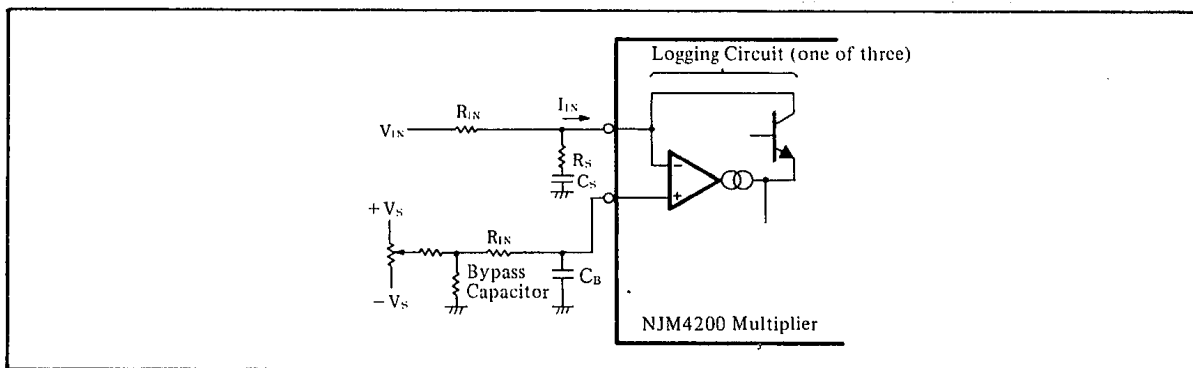

Figure 7. Optional Frequency Stability Components R_S, C_S and C_B
1. Connect a series $R_S C_S$ from input summing junction to ground as shown in Figure 7. This network has the effect of attenuating the feedback at high frequencies and thereby stabilizing the op amp. Loop gain at high frequencies is sacrificed, but this is seldom of concern in dividing or square-rooting applications. Recommended values are $10\text{k}\Omega$ for R_S and $0.005\mu\text{F}$ for C_S .
2. The resistor on the noninverting input can be bypassed as shown in Figure 7. This helps to reduce noise. The need for these frequency compensating techniques will depend on the application, particularly the input current range and input signal characteristics.